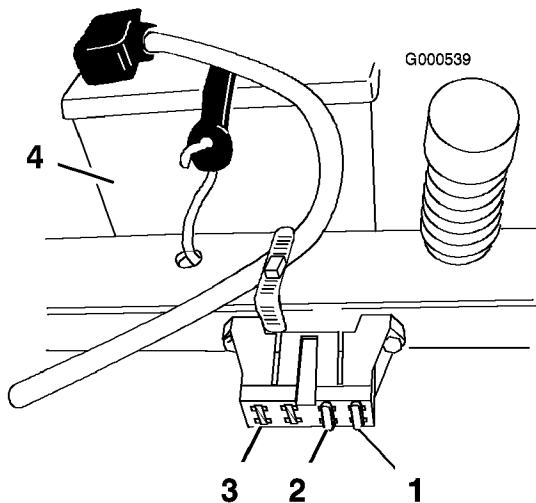

Figure 33
- Raise the seat to gain access to the fuse holder (Figure 33).
- To replace a fuse, pull out on the fuse to remove it (Figure 33).